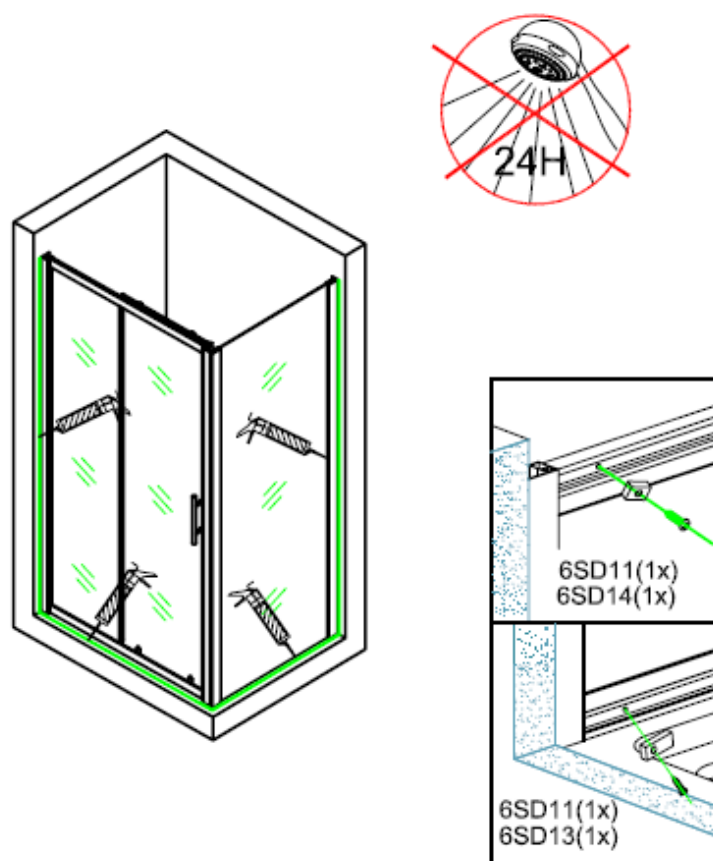

Figure 10
10. Install the top and bottom rubber stoppers,.Finally,at all points connected to the wall,shower tray,floor and profiles,use silicone sealant only on the outside of the shower enclosure,as showed in figure 10